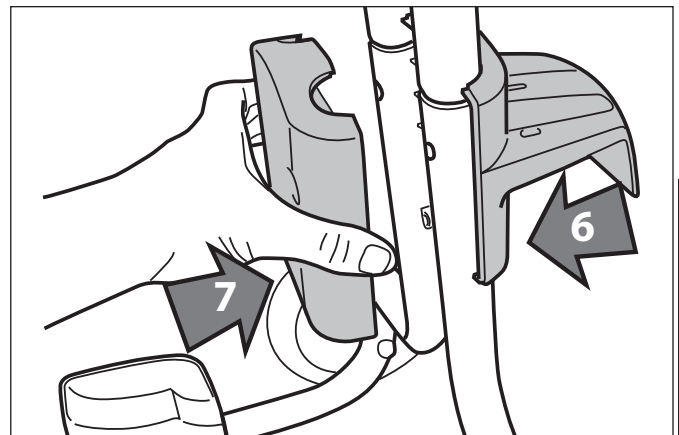
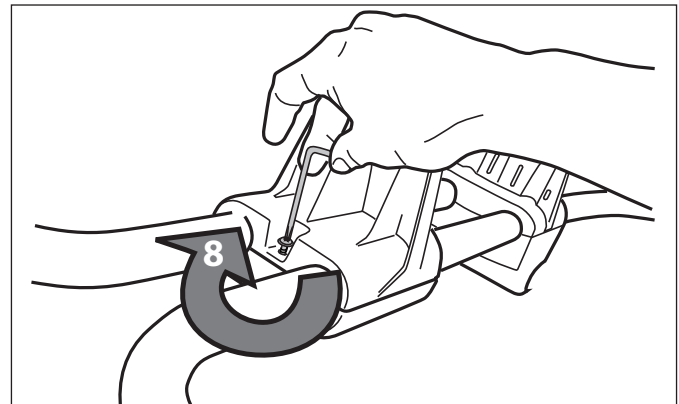

Figure 6. Position the Bottom Power Cable Hook
Figure 7. Secure the Bottom Power Cable Hook
- Position the bottom power cable hook as shown in Figure 6. Place the cable hook plate opposite the power cable hook. Secure using a screw and tightening with the Torx wrench. Refer to Figure 7.